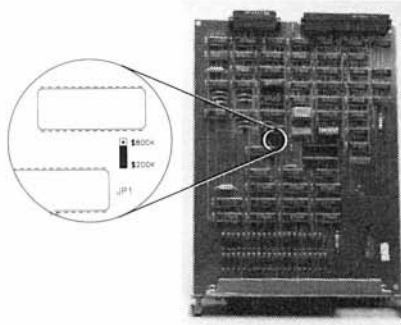

Figure 5-27: HP 98726A Jumper #1 Default Position
- b. The jumper JP1 determines the memory location for the card's control space in DIO-I. The default position of JP1 is shown in figure 5-27.